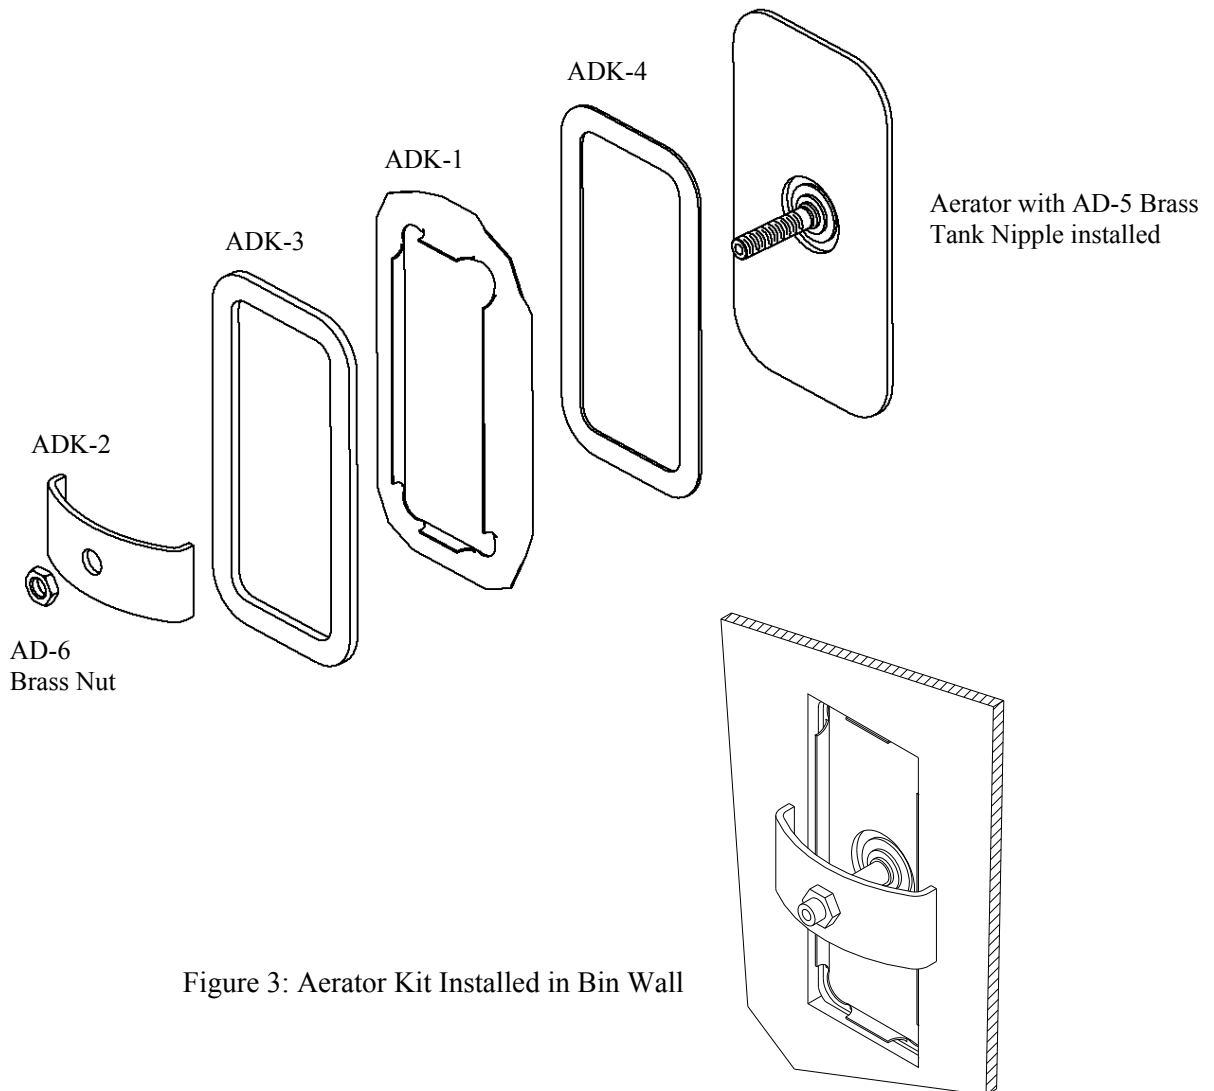

Figure 3: Aerator Kit Installed in Bin Wall
7. Holding the aerator by the tank nipple, slip the entire assembly through bin wall. Rotate the clamp to bridge the opening and tighten locknut. The aerator is securely held in place and the hole in bin wall is positively sealed (refer to Figure 3).